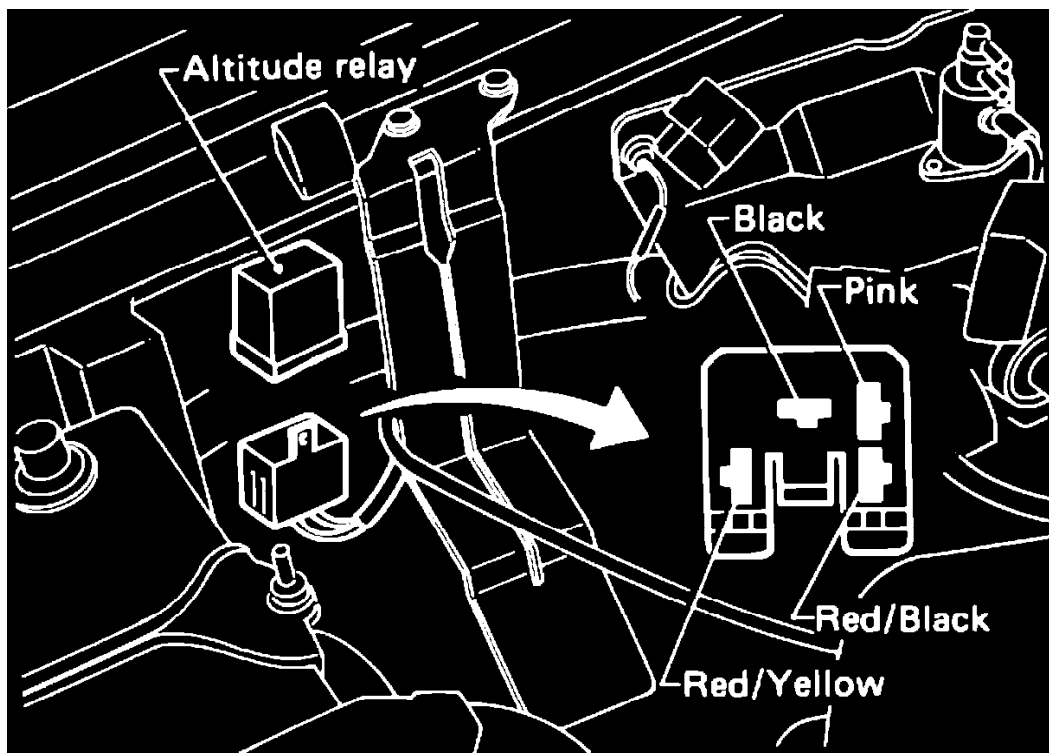

Fig. 41 Installing altitude relay.
3. Install altitude relay, **Fig. 41**.